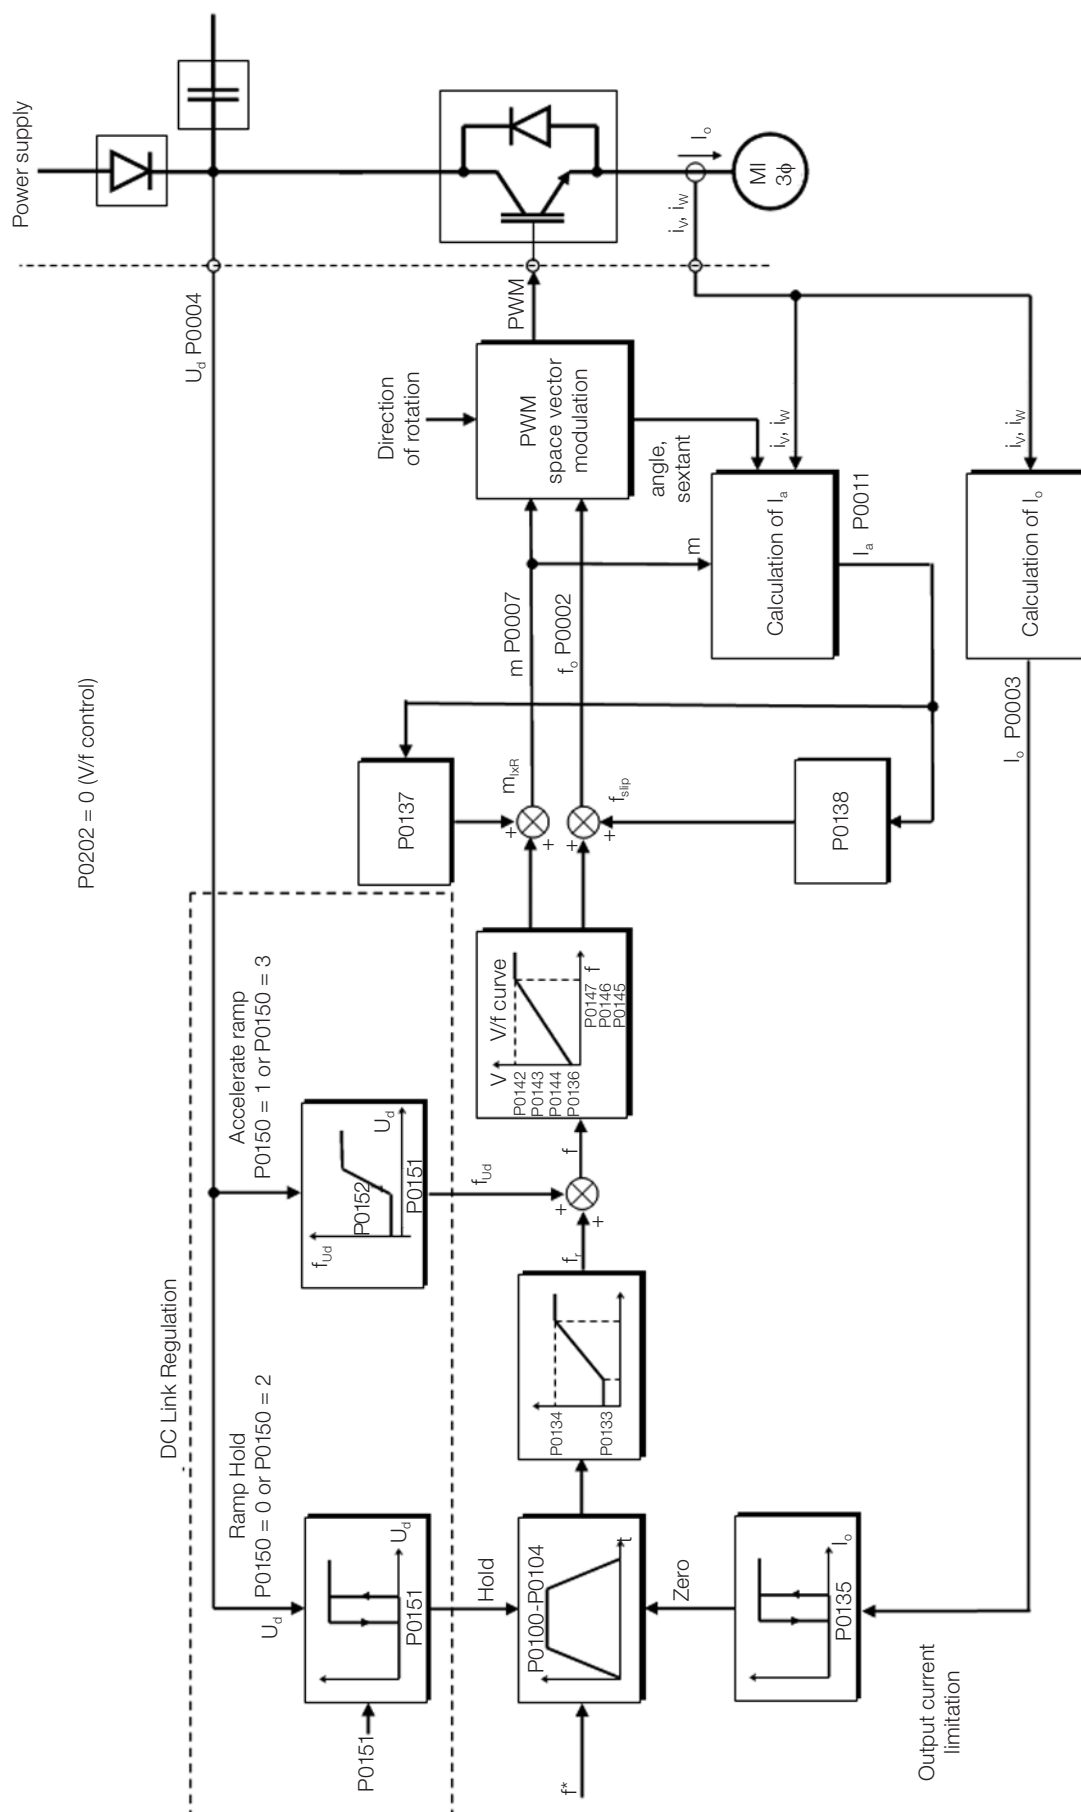
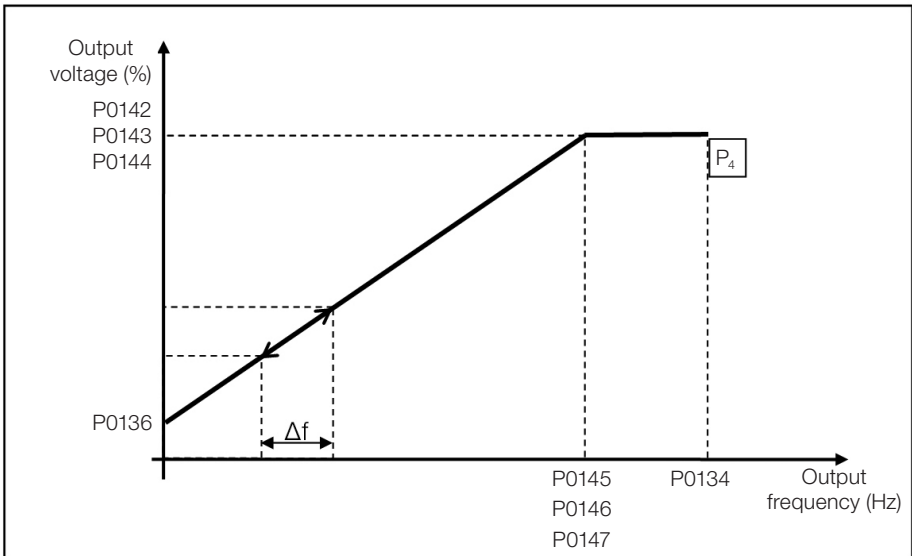

Figure 9.1: V/f scale control block diagram
Figure 9.5: Slip compensation in an operation point of the standard V/f curve
According to the block diagram of Figure 9.1 on page 9-2, the speed reference f^* is limited by P0133 and P0134 and applied to the input of "V/f curve" block, where the output voltage amplitude and frequency imposed to the motor are obtained. For further details on the speed reference, refer to Chapter 7 LOGICAL COMMAND AND SPEED REFERENCE on page 7-1.
The automatic torque boost compensates the voltage drop in the stator resistance because of active current. Look at Figure 9.1 on page 9-2, where variable m_{ixR} corresponds to the automatic torque boost action on the modulation index defined by V/f curve.
Parameter P0138 is used in the motor slip compensation function, when set for positive values. In this case, it compensates the speed drop due to application of the load on the shaft and, consequently, the slip. In this way, it increments the output frequency (Δf) considering the increase of the motor active current as shown in Figure 9.5 on page 9-6. In Figure 9.1 on page 9-2 this compensation is represented in the variable f_{slip} .
The setting in P0138 allows regulating with good accuracy the slip compensation by moving the operation point on the V/f curve, as shown in Figure 9.5 on page 9-6. Once P0138 is set, the inverter is able to keep the speed constant even with load variations.
- Actuation: when the DC Link voltage reaches the level set in P0151, a command is set to the “ramp” block, which inhibits the motor speed variation according to Figure 9.1 on page 9-2 and Figure 10.1 on page 10-2.